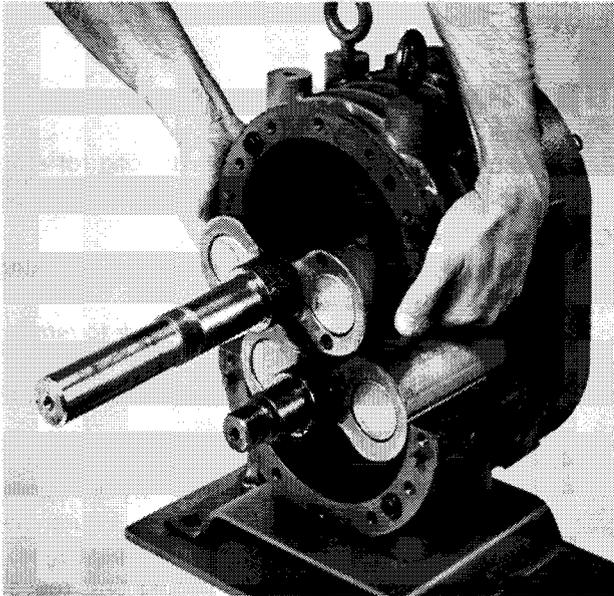

FIGURE 16
- u. Remove the Belleville spring (48) and discard as it will not be reused.
- v. Separate the drive rotor from the gear end plate (see Fig. 16).
- w. Remove the two cap screws and spacers holding the upper housing half (12) to the